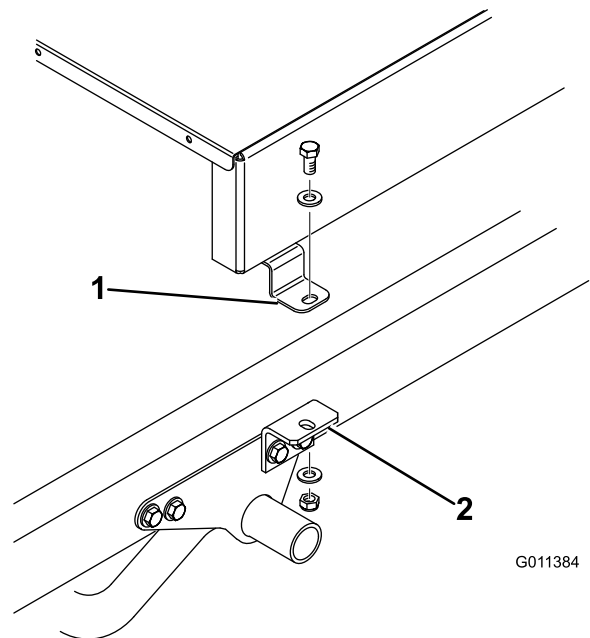
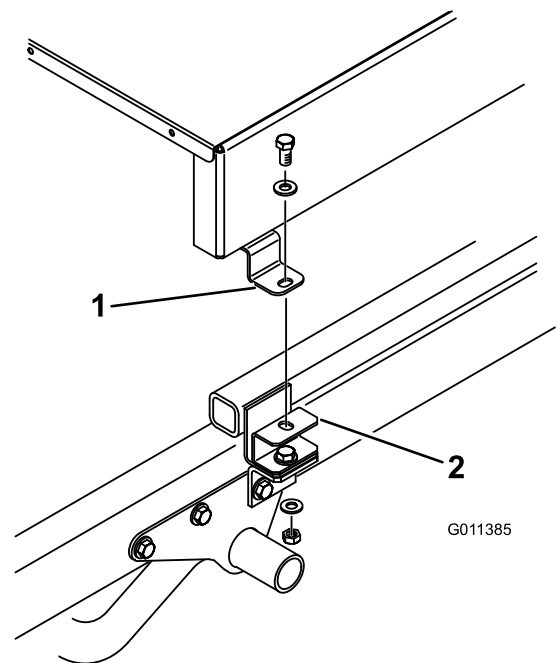

Figure 9
Figure 10
7. Loosely secure the top of each attachment bracket (Figure 9) or spacer mount (Figure 10) to the mounting tab on each side of the topdresser with a 1/2 x 1 inch cap screw, 2 flat washers, and locknuts. Tighten all fasteners.